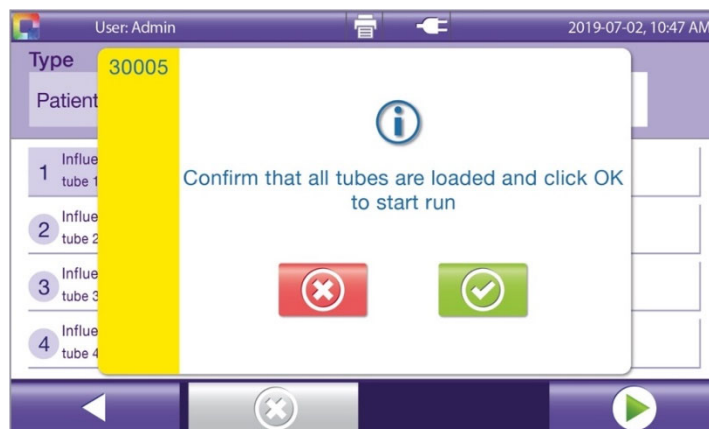

Figure 45
- Touch the  button to confirm all tubes are loaded and to start the run (**Figure 45**).